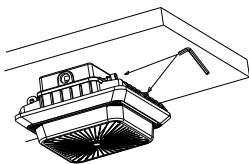

Figure 2-8
- 8.Lock the two cap screws, the product is installed.Figure 2-8